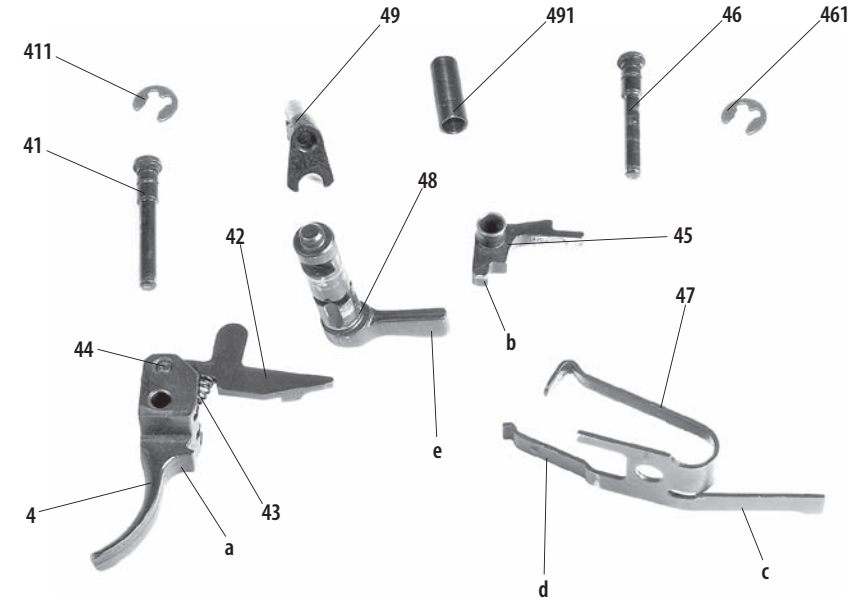

Fig. 17 **The trigger mechanism** /disassembled/
**Striker 37** (Fig. 13) strikes against the firing pin. It is of a hollow cylinder shape closed at its front end by a smooth front wall coming into contact with the firing pin. The rear open end has a head provided with grooves by which the striker is guided along the bars in the receiver. The striker head is elongated downwards, thus forming a nose **o**. The cylindrical part of the striker is relieved along the periphery by means of six longitudinal grooves. The groove on the left-hand side of the striker is closed on its front side and is elongated backwards as far as the striker head. Along the groove is guided the projection of the bolt carrier. The projection prevents the striker from falling out of the bolt carrier. This closed groove is joined with the neighboring longitudinal groove by means of a cross groove which enables the projection of the bolt carrier to pass to the closed groove. Striker spring 382 (Fig. 17) is inserted with its one end into the cylindrical cavity of the striker.